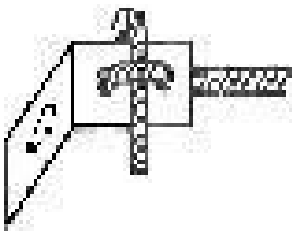

Fig. 1 Cable Lacing Bracket
- 5) Attach the two Cable Lacing Brackets (9) to the wood door jamb or header, in line with and at the same height as the horizontal track. Use the two 5/16" x 1 1/2" Lag Screws (8).
- 6) Remove the pulley forks from the existing 3" pulleys attached to the front end of each spring. Replace with the new Pulley Forks (2). Re-assemble with the 3/18" x 1 1/2" Hex Bolt (3) and Nut (4) provided.
- 7) Attach 5/16" x 4" Eye Bolts (5), Nuts (7), and Washers (8) to the track mounting angle at the rear of the horizontal track. Run one nut and washer all the way up on the eyebolt. Insert through pre-punched holes in the vertical mounting angle. Tighten up with remaining nut and washer, securing eye bolt to the angle iron.
- 11) Thread and loop the cable through the two holes in the Cable Lacing Bracket (9). See drawing Fig. 1 example. Adjust and remove cable slack.